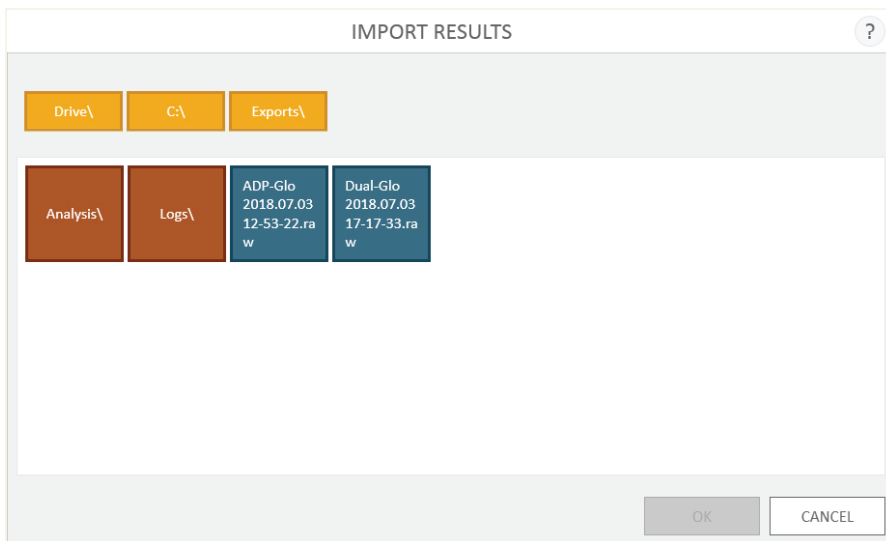

Figure 62. Importing Results, Templates or Analyses. Use the file browser screen to browse to the location of the desired import file.
- c. Touch the **Import** button near the bottom left side of the screen to open the 'Import Results', 'Import Templates' or 'Import Analyses' screen, depending on the current list being viewed (Figure 62).